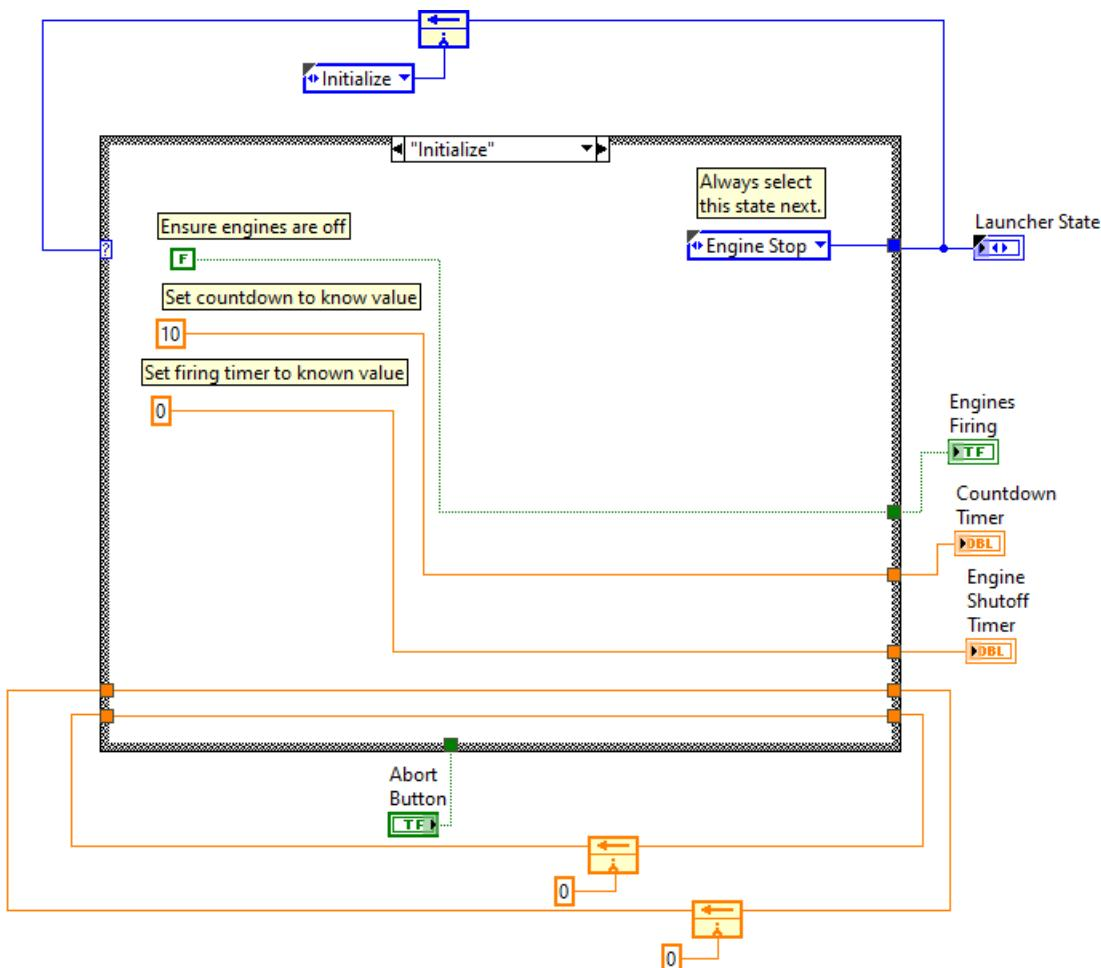

FIGURE 3.22 State Machine modified for use as a VI subroutine
6. The local variables also need to be changed to output a value for every state. This is already true for the Launcher State. The real state machines for your robot likely won't need this modification because they probably will use robot library VI to activate devices or use global variables for communications. The modified block diagram should look like Fig. 3.22.